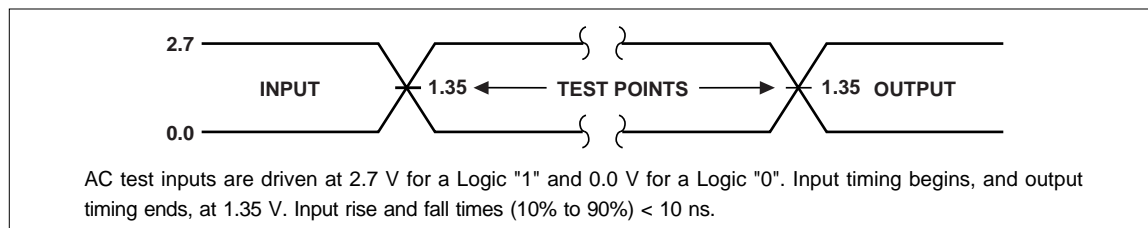
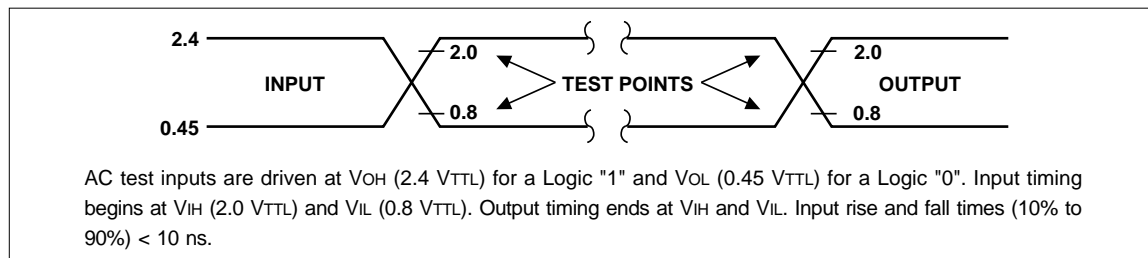

Fig. 9 Transient Input/Output Reference Waveform for V_{CC} = 2.7 to 3.6 V
Fig. 11 Transient Input/Output Reference Waveform for V_{CC} = 5.0±0.5 V (Standard Testing Configuration)
1. See AC Input/Output Reference Waveform (Fig. 9 through Fig. 11) for maximum allowable input slew rate.